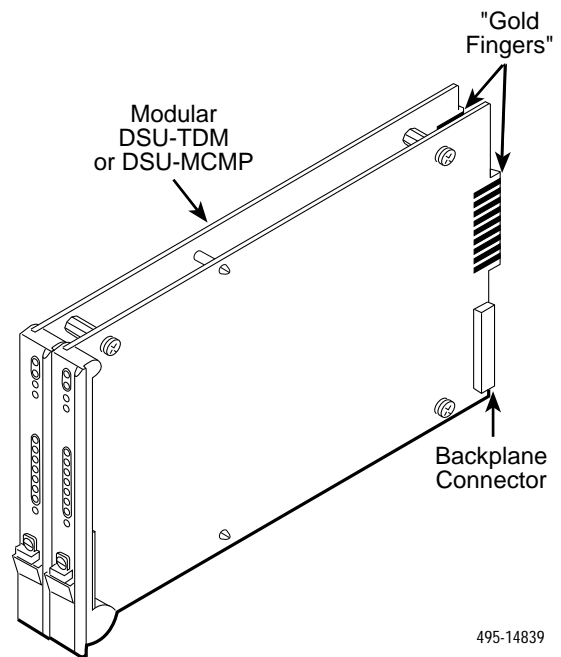

Figure 6-2. DSU with MUX Card Attached
- DSU card with a MUX card attached, which requires a connector module. The two cards are physically connected and occupy two consecutive slots in the carrier (Figure 6-2).